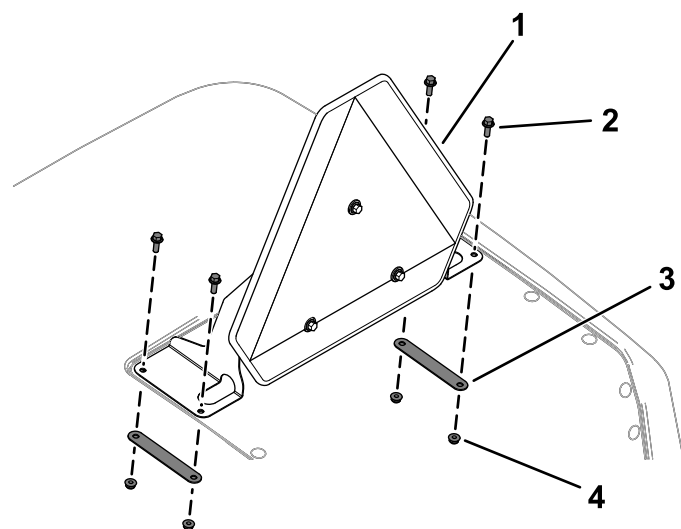

Figure 24
11. Secure the assembled slow-moving vehicle sign to the hood using 4 flange-head bolts (1/4 x 3/4 inch), 2 back mounts, and 4 locknuts (1/4 inch) as shown in Figure 24.